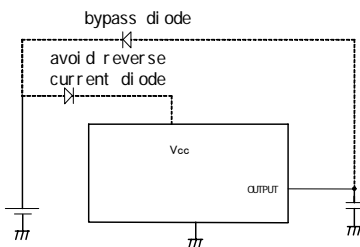

Figure 30. Example of insert diode
- (9) In the application, when the mode where the VIN and each pin electrical potential becomes reversed exists, there is a possibility that the internal circuit will become damaged. For example, during cases wherein the condition when charge was given in the external capacitor, and the VIN was shorted to GND, it is recommended to insert the bypass diode to the diode of the back current prevention in the VIN series or the middle of each Pin-VIN (fig.30).
- (10) About IC Pin Input